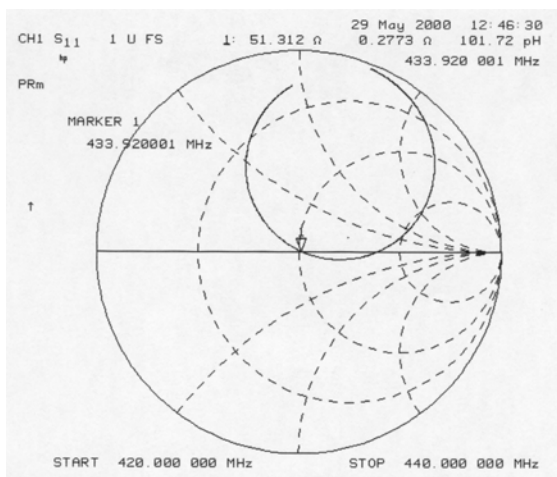

Figure 5: Smith chart
**Resonance:** This is obtained at the centered frequency once the characteristic impedance is strictly resistive. The minimum reactive part should be observed at the considered frequency (Figure 5: Smith's chart)